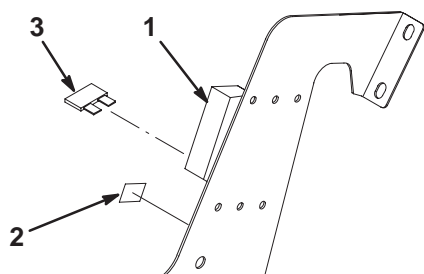

Figure 1
5. Plug the spade terminal of the red wire from the light kit harness into the new fuse block. Affix the fuse decal to the corresponding circuit on the vehicle fuse block decal (Fig. 1).
6. Insert a 15 amp fuse into the fuse block at the location shown on the decal (Fig. 1).